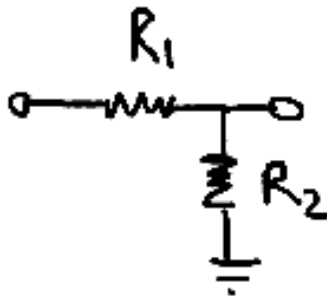

Figure 2: A voltage divider
- build voltage divider (Figure 2) out of two 1k resistors, connect input to +5V DC voltage source